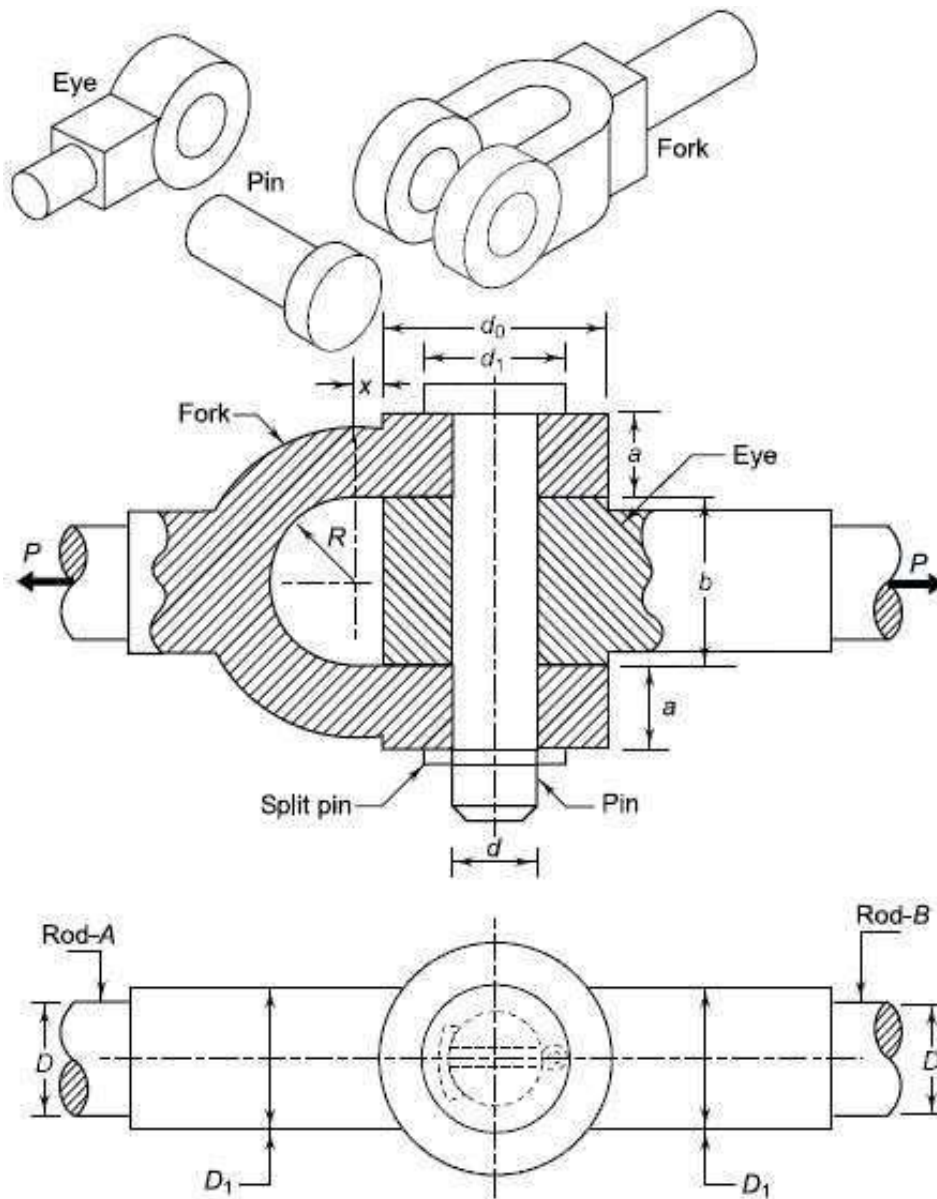

Figure.5.1
- Two rods are connected by means of a knuckle joint as shown in Fig.5.1 The axial force P acting on the rods is 25 kN. The rods and the pin are made of plain carbon steel 45C8 ($S_{yt} = 380 \text{ N/mm}^2$) and the factor of safety is 2.5. The yield strength in shear is 57.7% of the yield strength in tension. Calculate: (i) the diameter of the rods, and (ii) the diameter of the pin.